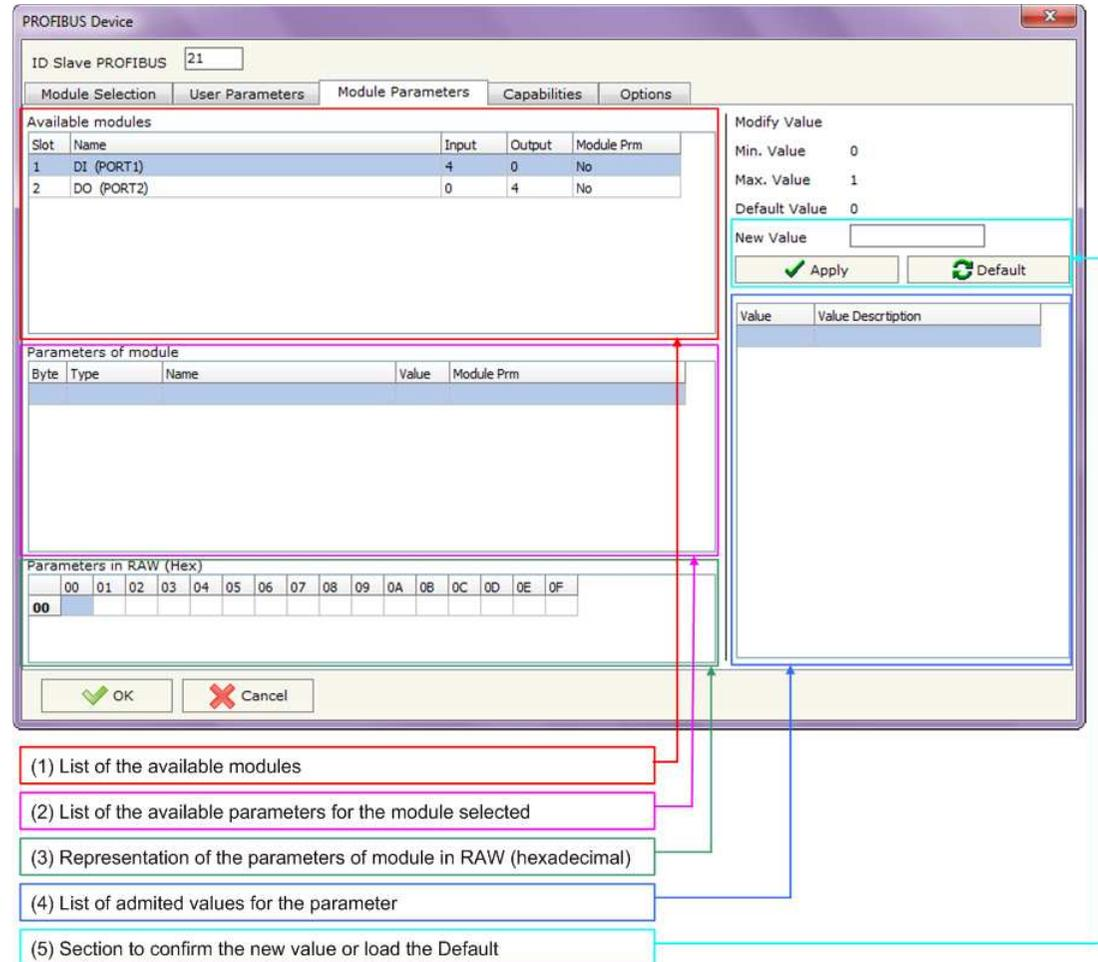

Figure 15: “PROFIBUS Device – Module Parameters” window
The section “**Module Parameters**” is used to modify the parameters of the Modules (Fig. 15).
- The List of all Module selected in the GSD file (“Available modules”) (Fig. 15, point (1));
- The List of all Parameters available for the Module selected (“Parameters of module”) (Fig. 15, point (2));
- The Configuration of all parameters in RAW for the Module selected (“Parameters in RAW (Hex)”) (Fig. 15, point(3));
- The admitted value for the selected parameter. It is possible to select the value desired and confirm it with the “**Apply**” button. If no value appears in this table, the “Min Value” and “Max Value” are the limit of the parameter. (Fig. 15, point(4));
- The “**Apply**” button is used to confirm the new value of the parameter, the “**Default**” button is used to load the factory value for the parameter. In “**New Value**” edit box it is possible to set the new value. (Fig. 15, point(5)).